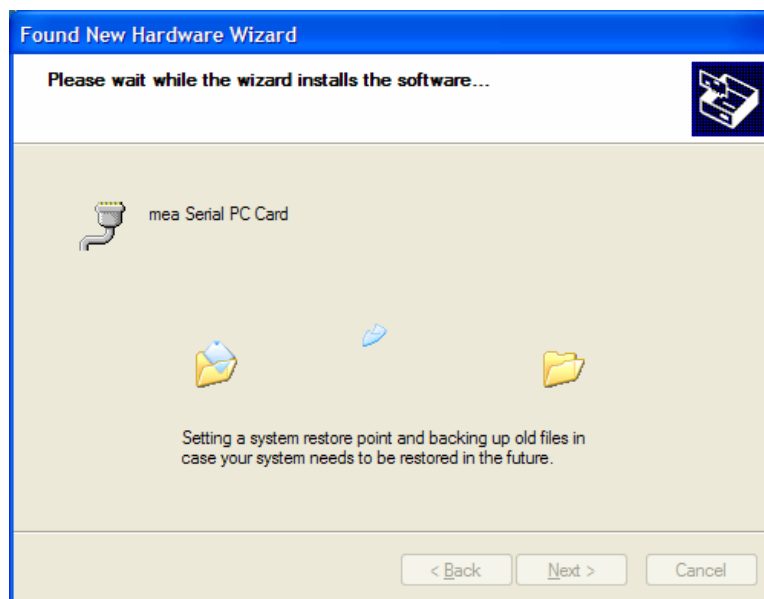
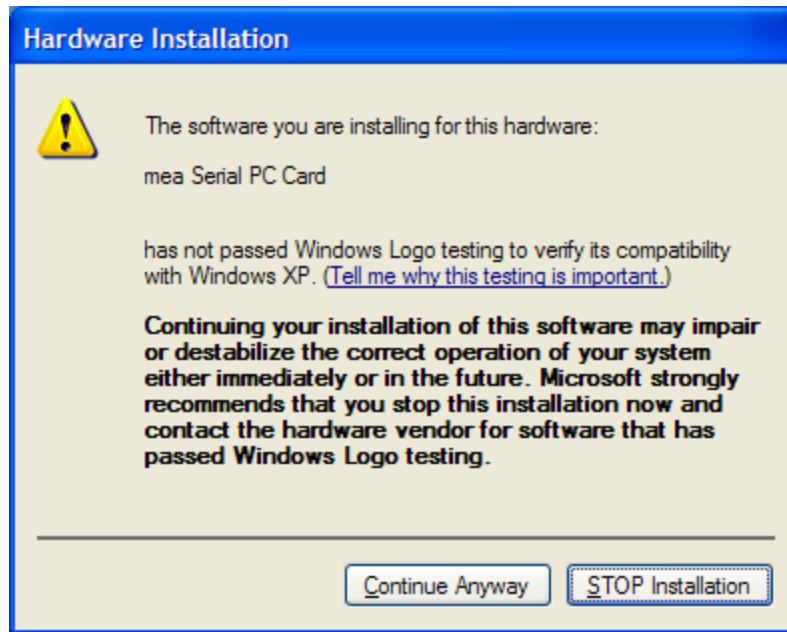

Figure 32. Found New Hardware Wizard - Loading Files
Figure 33. Hardware Installation Dialog Box
6. The *Found New Hardware* dialog will display the progress information for establishing the restore point and backing up old files as shown in Figure 32. As soon as these steps are complete, the *Hardware Installation* dialog box shown in Figure 33 will be displayed. Click on the **Continue Anyway** button in the *Hardware Installation* dialog box.